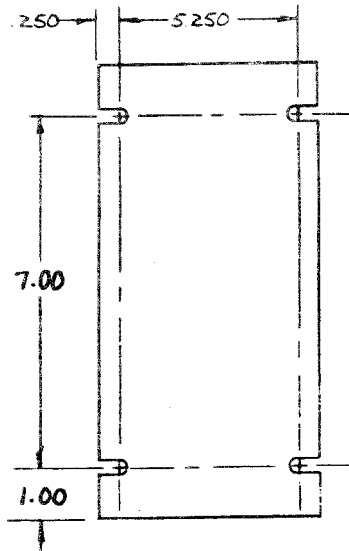

Figure 2 – Controller Mounting Dimensions
2. Refer to Figure 2 for mounting dimensions and layout mounting pattern on location selected.